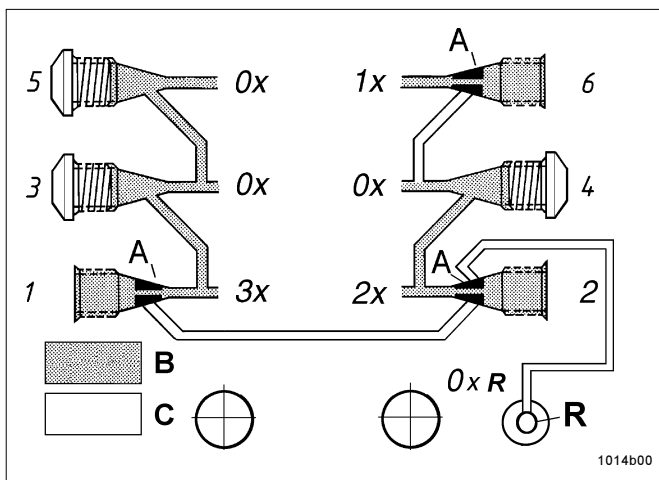
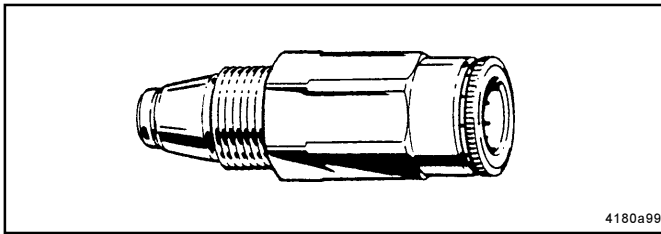

Fig.1 - Single double and triple lubricant output, on back side mouted divider blocks
Fig. 3 -Check valve, push-in type
- Each outlet used must be equipped with an appropriate check valve see page 4, Fig.3.
- Lubricant from a plugged outlet is redirected to the next outlet on the same side of the SSV divider block in descending numerical order (see Fig.1). For instance plugging outlets 5 and 3 will triple the amount of lubricant at outlet 1.
- \* Install a closure plug in each outlet port hole which is not required, see Fig. 1 or 4.
- \* Install one complete check valve in each outlet port hole which will be used, see Fig. 1 and 4.
**Important:** To change the outlet 2 for bearing lubrication, replace closure plug with check valve (Fig. 3), then never close outlet 1, see Fig. 1.